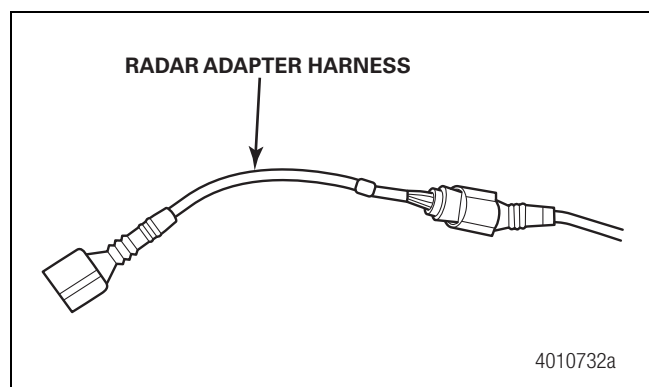

Figure 5
3. Install the radar adapter harness to the vehicle OEM radar connector by pushing on the adapter end until it snaps into the connector. Slide the rubber boot over the connector. Figure 5.